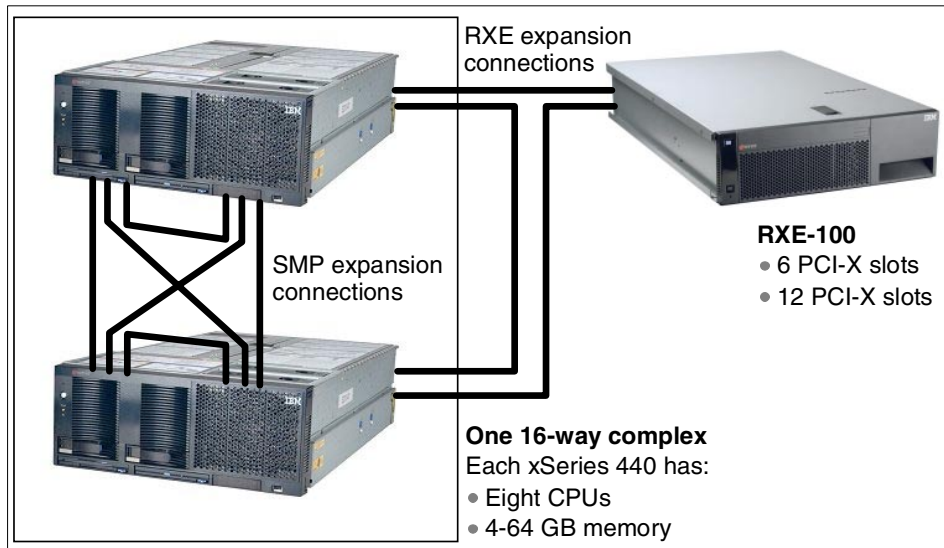

Figure 1-2 16-way server configuration using two eight-way x440 nodes
- ▶ A single 16-way system comprised of two eight-way x440 nodes, as shown in Figure 1-2 on page 5. This will be available in November 2002.
Each of these configurations can optionally also have an RXE-100 attached (see Figure 1-2 on page 5 for an example).